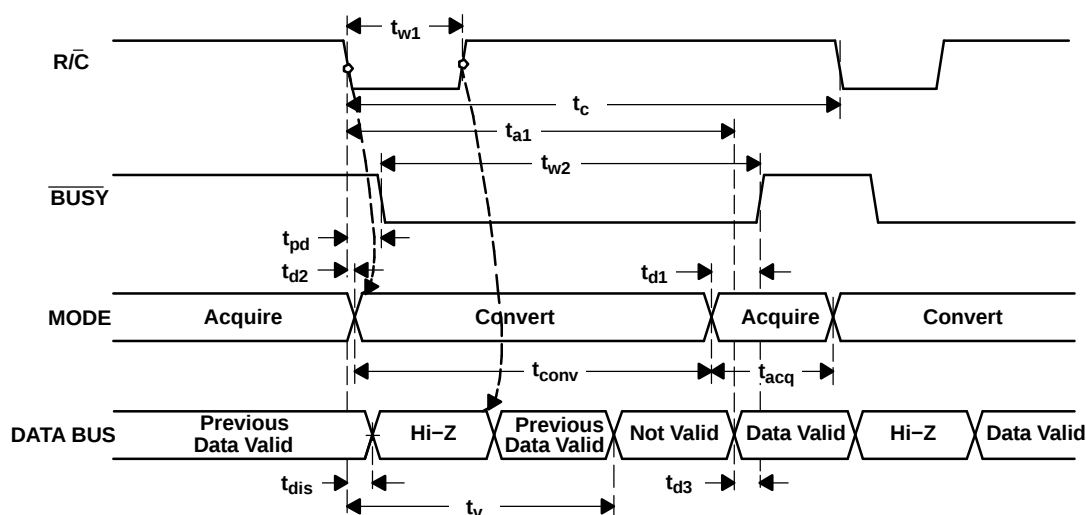

Figure 19. Conversion Timing with Outputs Enabled after Conversion ($\overline{CS}$ Tied Low)
The ADS8504 begins tracking the input signal at the end of the conversion. Allowing 4 μ s between convert commands assures accurate acquisition of a new signal. Refer to Table 1 for a summary of $\overline{CS}$, $\overline{R/\overline{C}}$, and $\overline{BUSY}$ states and Figure 19, Figure 20, and Figure 21 for the timing diagrams.
(1) See Figure 19 and Figure 20 for constraints on data valid from conversion $n-1$.
After conversion n is completed and the output registers have been updated, $\overline{\text{BUSY}}$ (pin 26) goes high. Valid data from conversion n is available on D11-D0 (pins 6-13 and 15-18). $\overline{\text{BUSY}}$ going high can be used to latch the data. Refer to Table 3 and Figure 19, Figure 20, and Figure 21 for timing specifications.
After conversion n has been initiated, valid data from conversion $n-1$ can be read and is valid up to t_2 (2.2 μs typ) after the start of conversion n . Do not attempt to read data from t_2 (2.2 μs typ) after the start of conversion n until $\overline{\text{BUSY}}$ (pin 26) goes high; this may result in reading invalid data. Refer to Table 3 and Figure 19, Figure 20, and Figure 21 for timing specifications.
The number of control lines can be reduced by tying $\overline{\text{CS}}$ low while using the falling edge of $\text{R}/\overline{\text{C}}$ to initiate conversions and the rising edge of $\text{R}/\overline{\text{C}}$ to activate the output mode of the converter. See Figure 19.